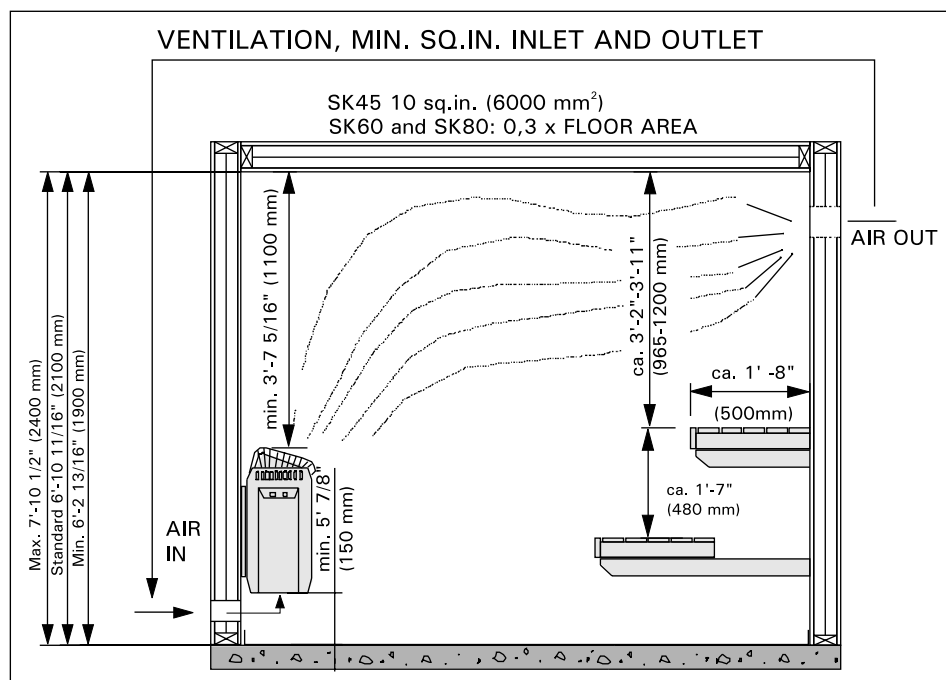

Figure 4. Sauna room
When aiming at a reasonable heater output, it may be advisable to lower the ceiling of the sauna (normally 6' – 10 11/16" (2100 mm)). See figure 4. As a result, the volume of the sauna is decreased, and a smaller heater output may be sufficient. The ceiling can be lowered so that the ceiling joists are fixed at a suitable height. The spaces between the joists are insulated (minimum insulation 4" (100 mm) and surfaced as described above.
CEILING HEIGHT	See figure 4.
See fig. 4.
Table 1. Installation details of a SK heater. See fig. 4 and item 2.3. "Heater output"
- NOTE!** There should be a support, e.g. a board, behind the panel, so that the fastening screws can be screwed into a thicker wooden material than the panel. If there are no boards behind the panel, the boards can also be fastened on the panel. See figure 4.